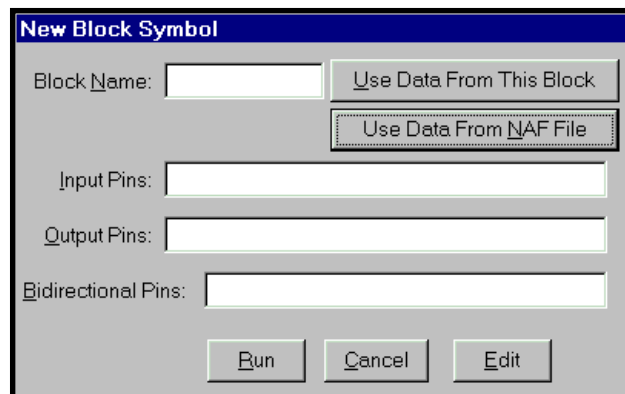

Figure 3-61. New Block Symbol Dialog Box
6. Open the top-level schematic in the Schematic Editor. Select **Add** ⇒ **New Block Symbol**. The New Block Symbol dialog box appears (Figure 3-61).